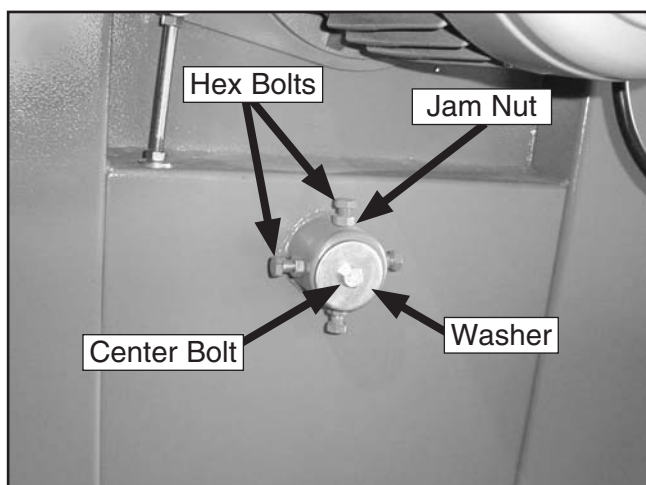

Figure 57. Wheel adjustment control shaft.
4. Remove the wheel adjustment control shaft center bolt and washer (**Figure 57**).
5. Remove two hex bolts (**Figure 57**) on the wheel adjustment control.